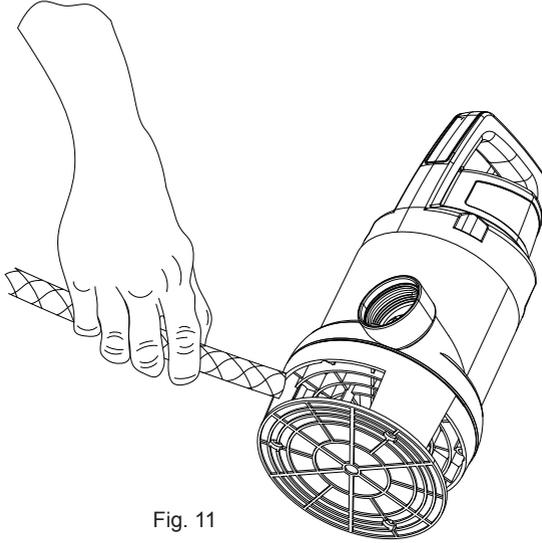

Fig. 11
- 3) Clean behind footstool plate using water pressure from a hose pipe (Fig. 11).